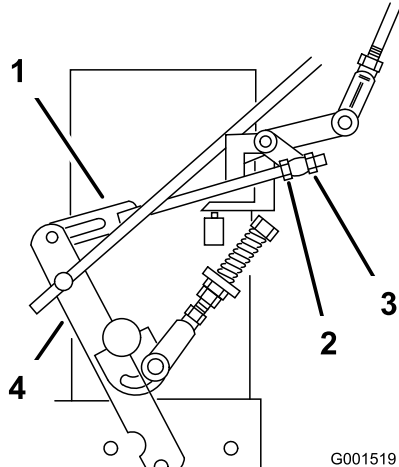

Figure 38
- Loosen the front adjusting nut on left hydro control linkage as shown in Figure 38.
- Turn the left rear adjusting nut counter-clockwise until wheel rotates forward (Figure 38).
- Turn the rear adjusting nut clockwise 1/4 of a turn at a time. Then move the speed control lever forward and back to neutral. Repeat this until left wheel stops rotating forward (Figure 38).